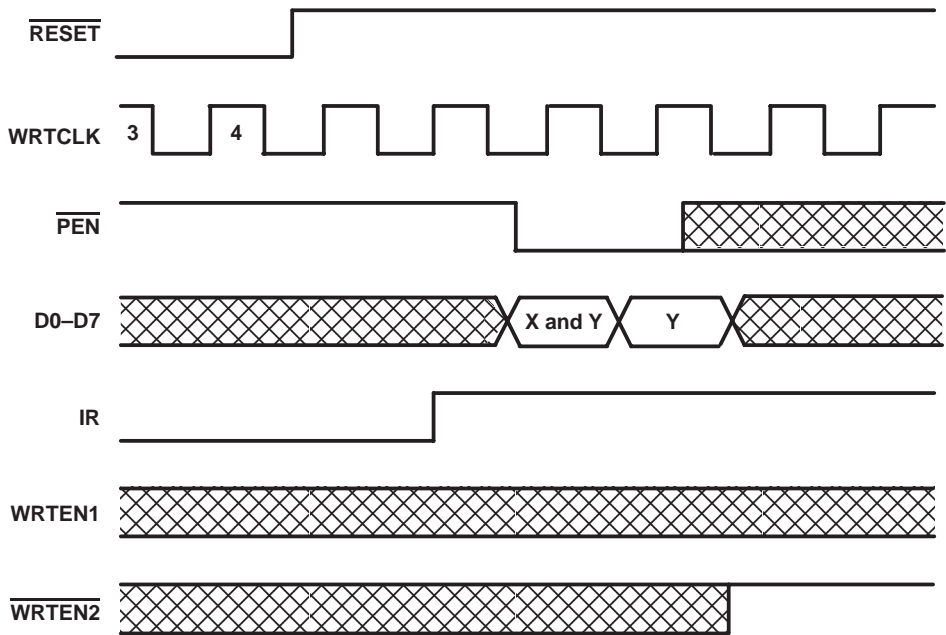

Figure 4. Programming X and Y Separately
Program enable ($\overline{\text{PEN}}$) should be held high throughout the reset cycle. $\overline{\text{PEN}}$ can be brought low only when IR is high and WRTCLK is low. On the following low-to-high transition of WRTCLK, the binary value on D0–D7 is stored as the almost-empty offset value (X) and the almost-full offset value (Y). Holding $\overline{\text{PEN}}$ low for another low-to-high transition of WRTCLK reprograms Y to the binary value on D0–D7 at the time of the second WRTCLK low-to-high transition. When the offsets are being programmed, writes to the FIFO memory are disabled, regardless of the state of the write enables (WRTEN1, WRTEN2). A maximum value of 255 can be programmed for either X or Y (see Figure 4). To use the default values of X = Y = 64, $\overline{\text{PEN}}$ must be held high.